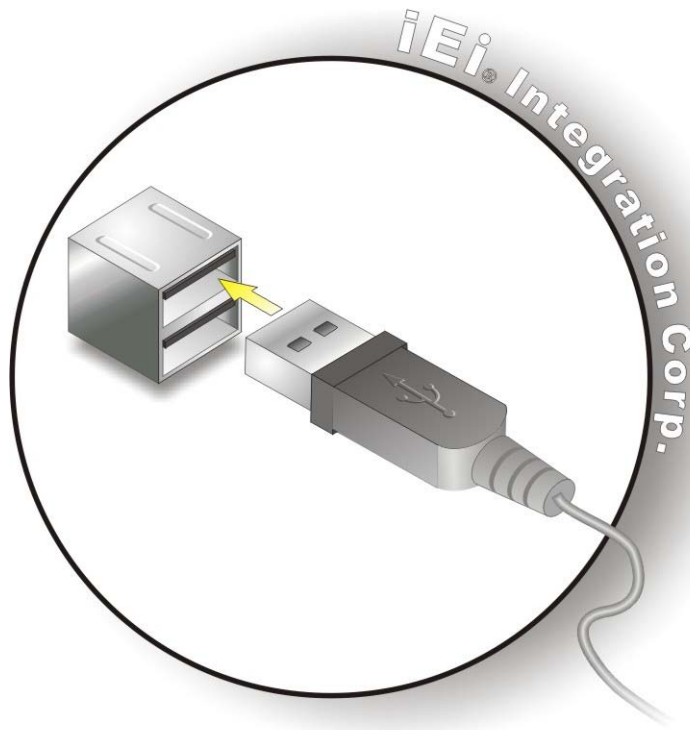

Figure 4-17: USB Connector
Step 2: **Insert a USB 2.0/3.0 plug.** Insert the USB 2.0/3.0 plug of a device into the USB 2.0/3.0 on the external peripheral interface. See **Figure 4-17**.